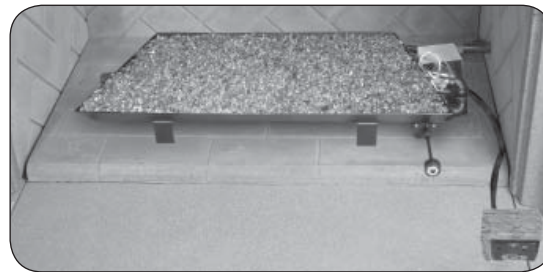

Fig. 21-1 Place glass media
1. **After the required sand/vermiculite has been placed**, pour the glass media (glass, gems) evenly into the burner pan (see Fig. 21-1). The glass should be flush with the top of the pan. **DO NOT** overfill.